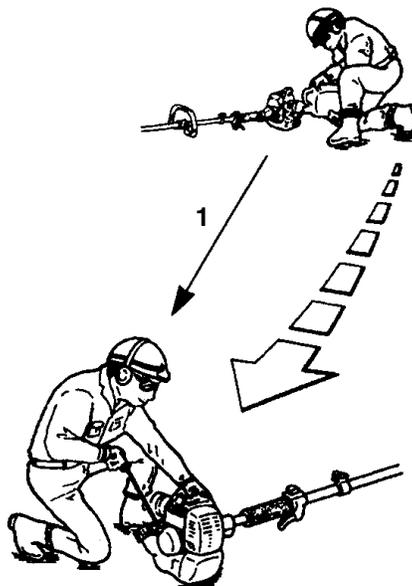

Figure 2
6. Move the Trimmer at least 10 feet (3 m) away from the fueling location before starting the engine (Fig. 2).